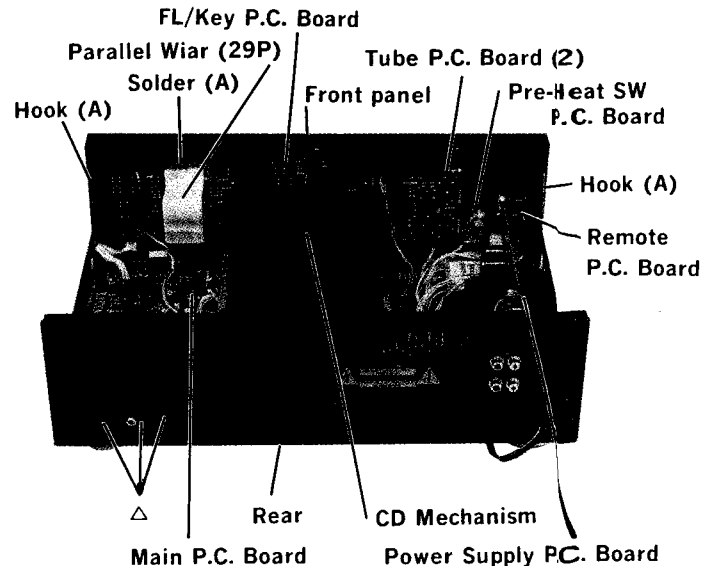

Figure 6 <6図>
- (3) Remove the solder (A) as shown in Figure 6.
- (5) Remove the hook (A) located in the two places as shown in Figure 6.
- (6) Disconnect all wires connected to the following P.C. Boards: FL/Keyboard P.C. Board, Tube P.C. Board (1)/(2), Remote P.C. Board, Pre-Heat SW. P.C. Board, Head-Phone Jack P.C. Board.
- (7) The Front Panel can now be removed with the following P.C. Boards in place: FL/Keyboard P.C. Board, Tube P.C. Board (1)/(2), Remote P.C. Board, Pre-Heat SW. P.C. Board, Head-Phone Jack P.C. Board, Fade P.C. Board.
- (1) After removing the Top Cover, remove the seven screws marked "△" as shown in Figures 6 and 8.